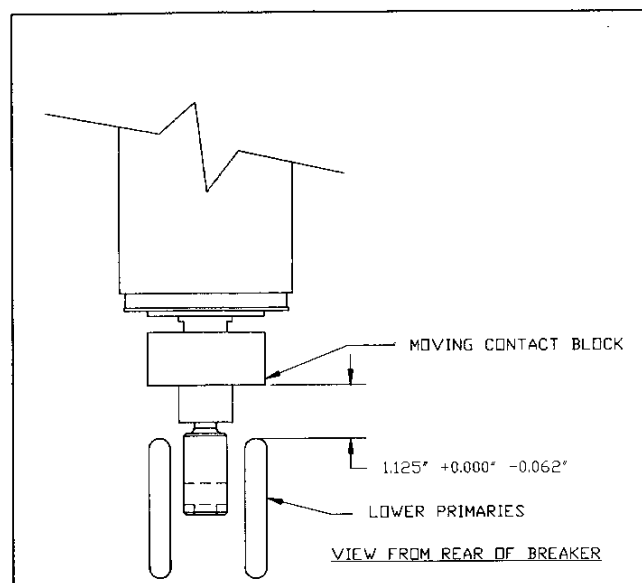

Figure 1. Moving Contact Block Measurements
At each inspection, the vacuum interrupters should be checked for contact erosion. The breaker must be closed for this check. Each new vacuum interrupter is set with a gap of about 0.500 inch between the contact loading spring yoke and the nut on the pushrod. Because the factory setting of the overtravel gap varies slightly for each interrupter, a label is provided on the lower part of each interrupter. The original factory setting of the overtravel gap and the end-of-life measurement of this gap are recorded on the label. When the overtravel gap measurement reaches the end-of-life value given on this label the interrupter should be replaced. See Figure 1.
- With closed contacts on a new vacuum interrupter, the bottom of the moving contact block should be $1.125'' + 0.00'' - 0.062''$ above the top of the lower main primary disconnect bars. See Figure 1.